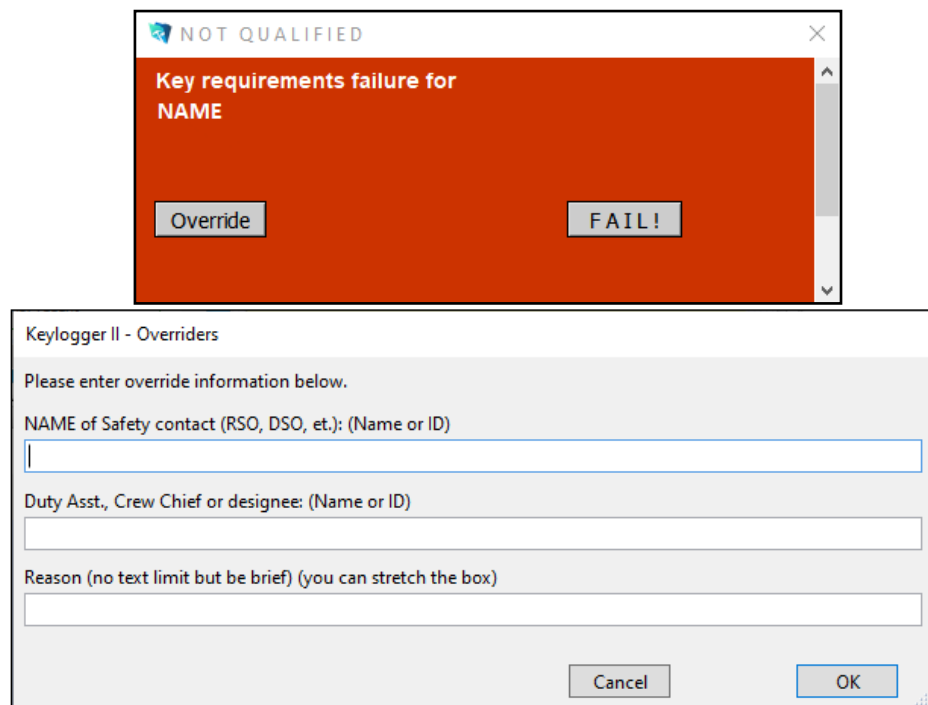

Figure 6
- iii. The Keylogger can Override the training that is being flagged and log out the key to the requestor anyway (pop-ups shown in *Figure 6*). **This is only done on a case-by-case basis with explicit advanced permission from the RSO or DSO.** If advanced permission has been obtained, click *Override* on the NOT QUALIFIED pop-up, and fill out the entire Overriders pop-up with complete information of who authorized the override, the name of someone who double-checked the override, and the full reason for the override. If there has been no explicit permission provided by either the RSO or DSO, you should not Override any training for any reason, and instead click the FAIL! button to cancel the key transaction.